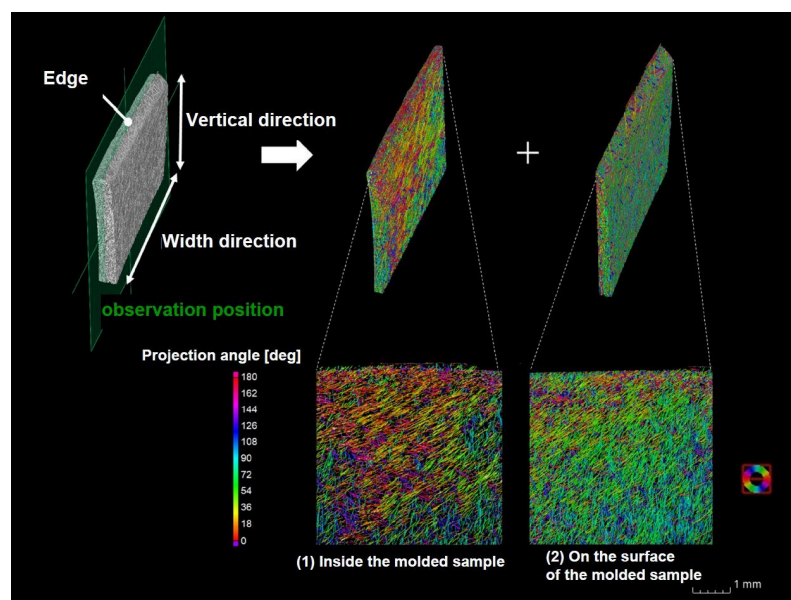

Figure 1: GF orientation inside and on the surface of a molded GFRP fan blade
A sample of a molded GFRP fan blade approximately 0.6 mm thick was cut to 10 mm width and scanned at 3.6  $\mu\text{m}/\text{voxel}$  for 17 min. The analysis area is 5 mm wide and 5 mm high and located at the center of the sample. Figure 1 shows the orientation angles of the GFs (1) on the inside and (2) at the surface (right edge) of the molded sample. On the inside (1), the GFs are colored red to yellow over a wide area of about 4 mm from the blade edge, indicating that many GFs are oriented in the width direction. On the other hand, on the surface (2), the GFs are colored blue to green over a wide area except for about 1 mm at the edge, indicating that many GFs are oriented in the vertical direction compared to the inside (1).